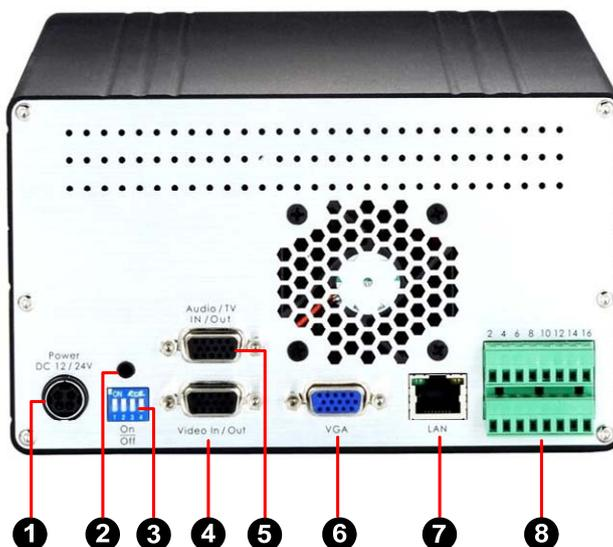

Figure 2-2
**Note:** To loop out videos, turn the 75 Ω switch to OFF position. See No. 2, Figure 2-2.